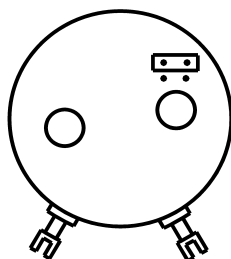

Figure 8: 50°-100°
- Jumper on top for measuring range between 50° and 100° (see Figure 8)